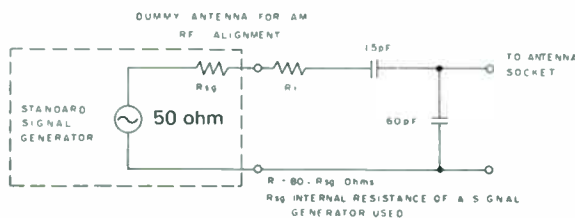

Figure 14.
1. Connect AM signal generator to antenna receptacle thru the dummy antenna. (Figure 14).